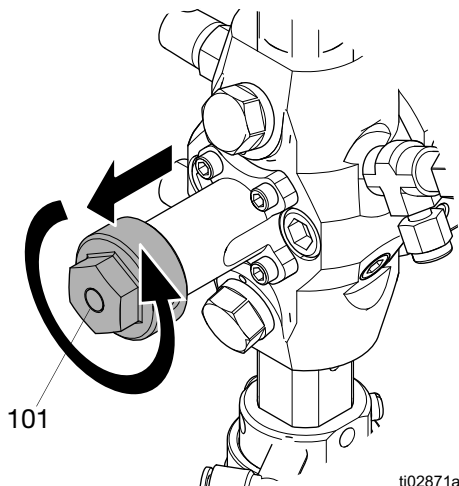

FIG. 4: Open Needle Valves
1. Loosen the knobs on the calibration shutoff valves (101). When the needle valve (102) is open, flow to the mix manifold is shut off, and all flow is blocked to the gun. See FIG. 4.